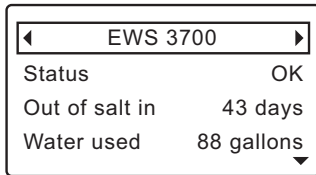

FIG. 52
1. Press the remote’s LEFT (◀) or RIGHT (▶) buttons to manually advance to the status screen for the device you want to check. The device name will show in the header. (See Figure 52).